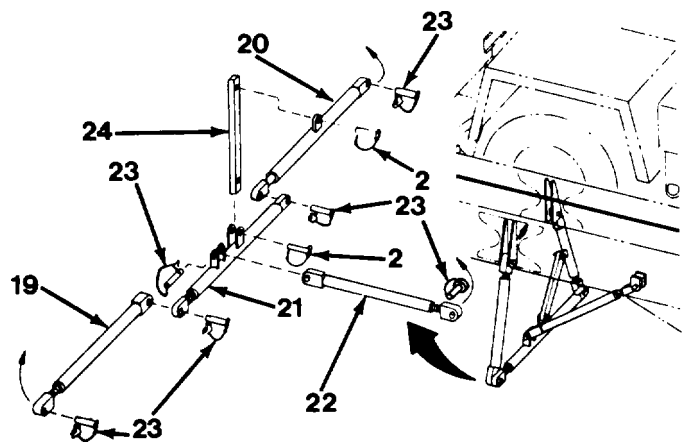

Figure 5-29 Support for Front of Boom
boom with two pins (23, Figure 5-29). Connect one end of post (22) to center of post (21) with pin (23); then swing other end of post (22) up and attach to ears underneath boom with pin (23). Attach tube (24) to posts (21) and (20) with two pins (2).